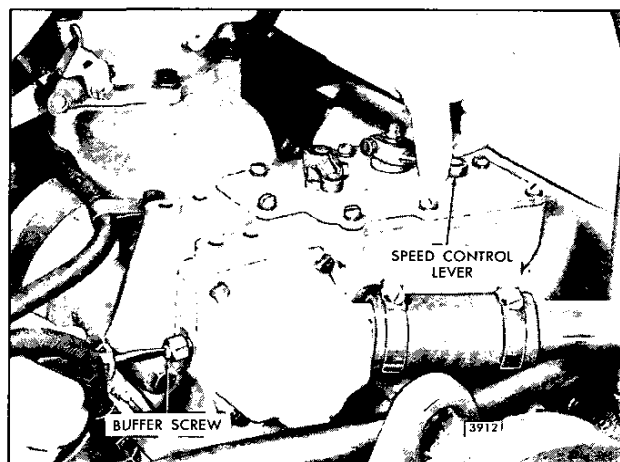

Fig. 17 – Adjusting Buffer Screw
2. Back out the buffer screw until it extends approximately 5/8" from the locknut (Fig. 17).
1. With the engine running at normal operating temperature, turn the buffer screw in (Fig. 17) so it contacts the differential lever as lightly as possible and